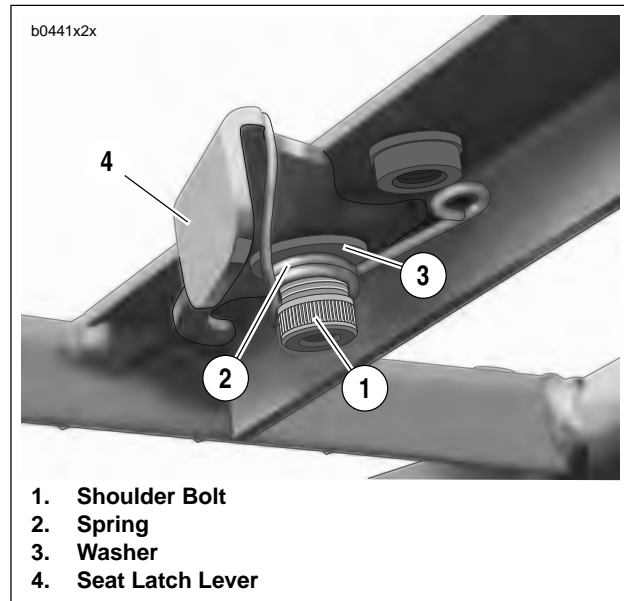

Figure 2-118. Installing Seat Release
2. See Figure 2-118. Place washer (3) and spring (2) under seat latch lever (4).
3. Hook edge of spring (2) over seat latch lever (4). Small loop of spring will rest against frame as shown.